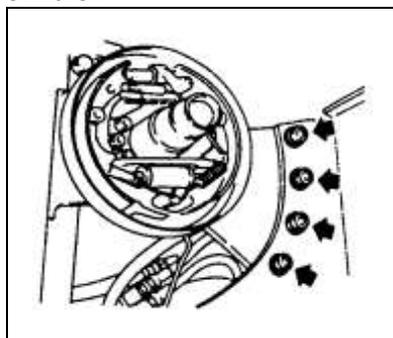

Fig.3-2
- 9) Remove bolts securing axle mounting bracket to frame.(see fig.3-2).